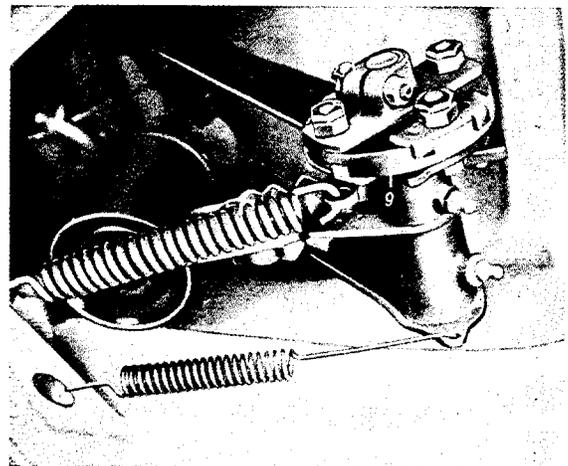

Fig. Ku 6a/3
3. Loosen nuts fastening flange (8) to shaft plate (9). See Fig. Ku 6a/3).
**Note:** In case the clutch pedal shaft is not removed completely, the shaft plate with flange can also be loosened at the clutch pedal arm (see Fig. Ku 6a/4).